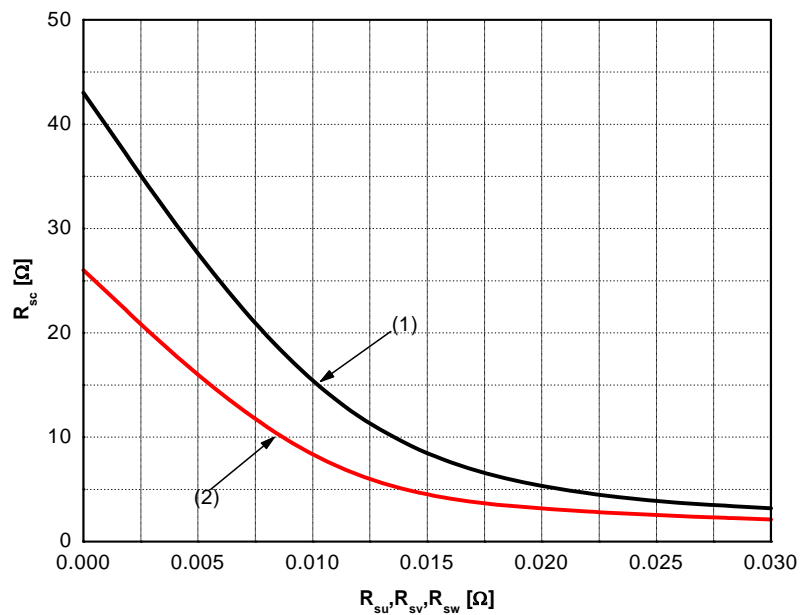

Figure 6. R_{sc} Variation by Change of Shunt Resistors (R_{su} , R_{sv} , R_{sw}) for Short-Circuit Protection
- Short-circuit protection is functioning only at the low-sides. It would be recommended that the value of the external sensing resistor (R_{SC}) should be selected around 26 Ω in order to make the SC trip-level of about 100A at the shunt resistors (R_{SU}, R_{SV}, R_{SW}) of 0 Ω. For the detailed information about the relationship between the external sensing resistor (R_{SC}) and the shunt resistors (R_{SU}, R_{SV}, R_{SW}), please see Figure 6.